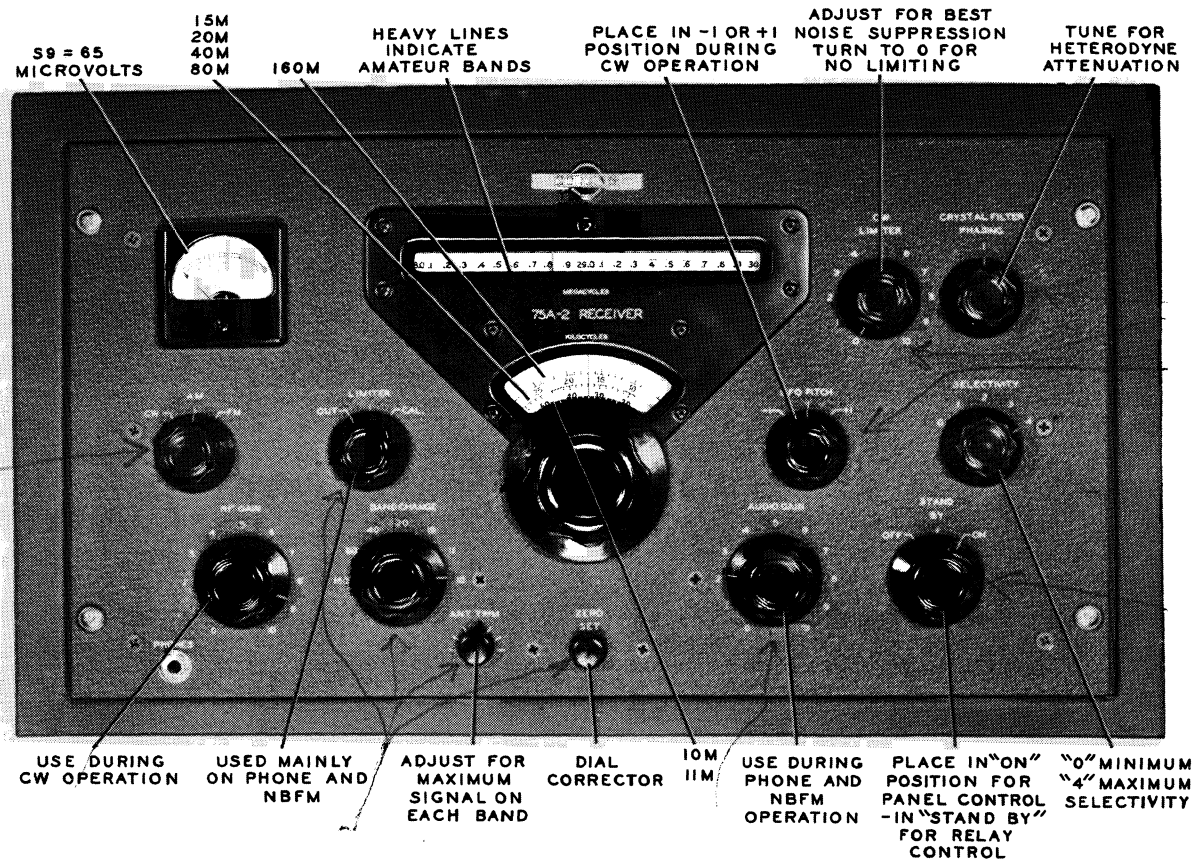

Figure 3-1. 75A-2 Operating Controls
d. MEGACYCLE - The MEGACYCLE dial is a slide rule dial calibrated in divisions of 100 kc each. Each scale is colored to match the associated scale on the KILOCYCLE dial. To read the tuning dial, combine the vernier dial (KILOCYCLE) reading with the slide rule dial reading. Thus, the 10 meter dial reading in figure 3-1 would be 28834 kc. The KILOCYCLE dial supplies the last two figures